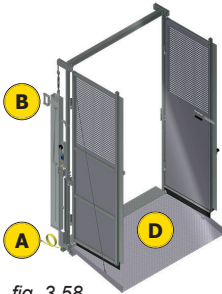

fig. 3.58
- 6- Slightly lower the handle ("B" in fig. 3.58) to release it from the safety notch (as shown in fig. 3.71, p. 57) and slide it up slowly to unfold the landing ramp.